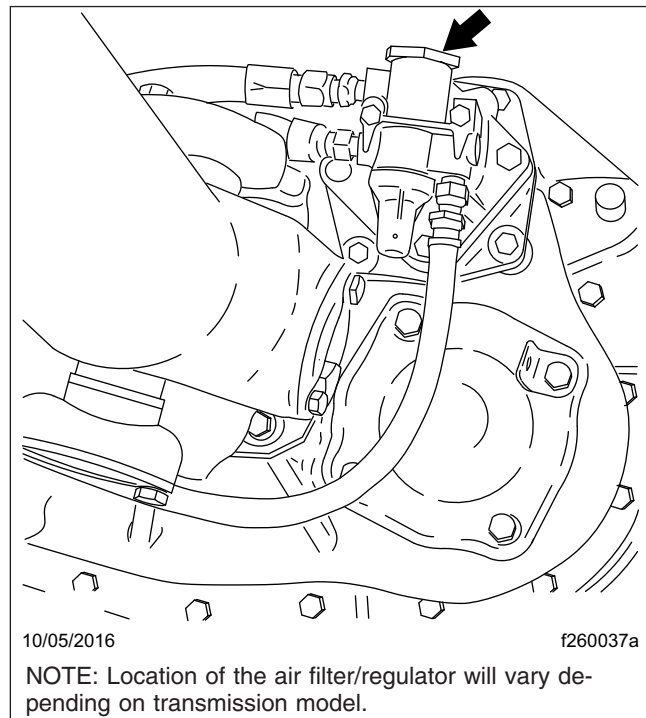

Fig. 4, Eaton Fuller Transmission Air Filter/Regulator Location
2. Clean the outside of the air filter/regulator with cleaning solvent, then let it air dry. See Fig. 4.